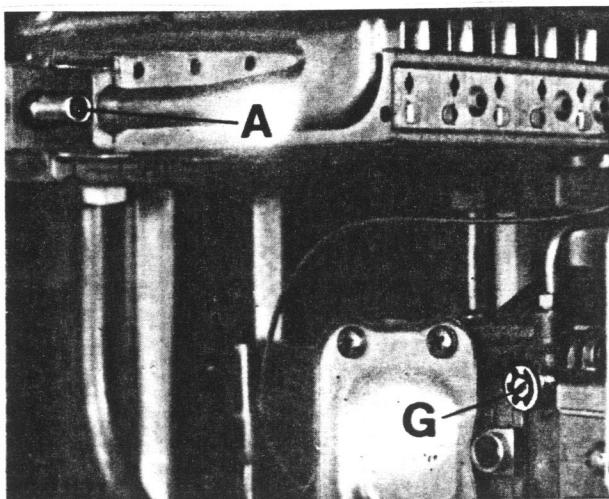

Fig. 4
1. Sealing screw "A" (Fig. 4) to be removed and U-pipe manometer to be connected.